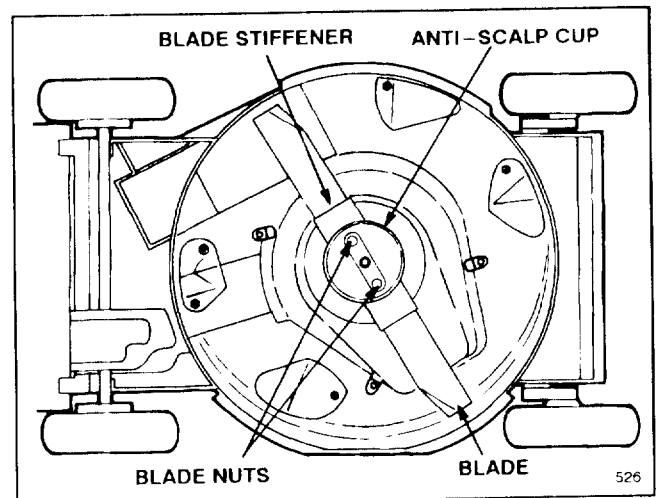

Figure 32
4. Remove (2) blade nuts, anti-scalp cup, blade stiffener, and blade (Fig. 32).